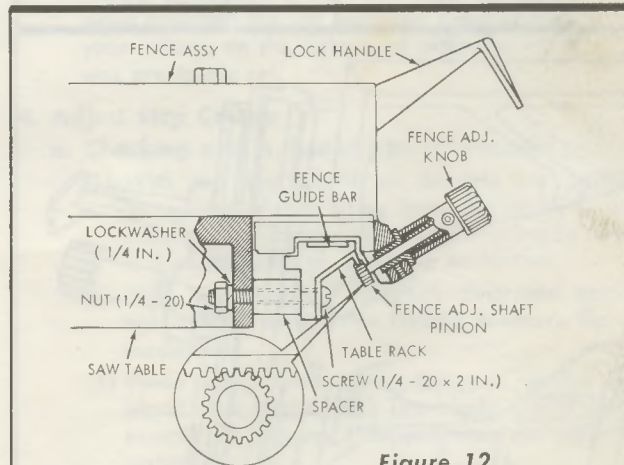
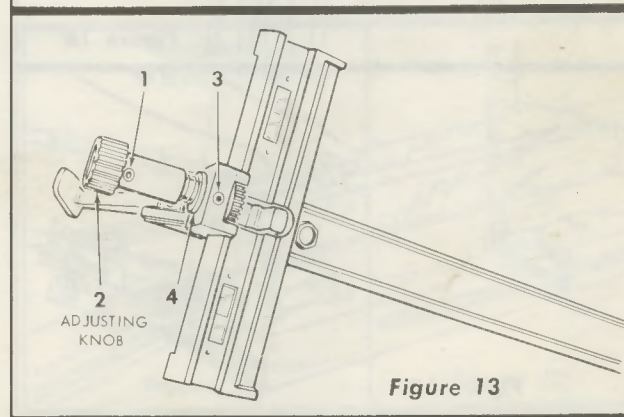

Figure 12
Figure 13
- (3) Check for correct engagement (mesh) of teeth on fence adjusting shaft pinion with the gear teeth in lower edge of rack. (See figure 12.) The pinion should be adjusted up or down so that gear teeth are in full contact lengthwise and meshed as far as possible, just short of binding. This adjustment is made as follows: Push the fence adjusting knob all the way down, and look underneath the rack to determine if the pinion and rack teeth are aligned. (See figure 12.) If the pinion extends too far (or not far enough) loosen the set screw (1, figure 13) with a 5/32-inch hex "L" wrench and slide the knob assembly on the pinion shaft to achieve proper alignment. Tighten the set screw (1, figure 13.) To adjust for correct
gear mesh (depth of tooth contact), loosen the set screw (3, figure 13) with a 5/32-inch hex "L" wrench and rotate the eccentric (4) until proper mesh is obtained. Tighten the set screw (3) after adjusting. Check for proper operation at various points along the rack.